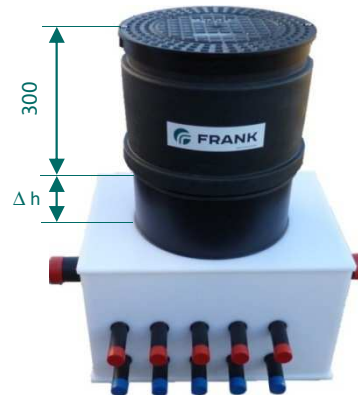

Figure 1: Example of 540 type manhole
- For chambers with a telescopic section, the end height of the chamber cover plate is variable within the adjustment range Δh . (See figure 1).